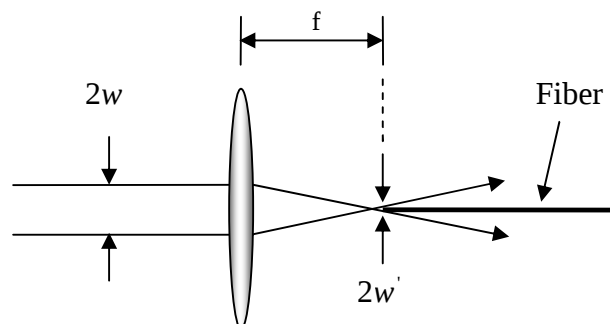

Figure 2: Laser/Fiber Lens Coupling.
Based on equation (1), when the laser spot size w is reduced, the coupling efficiency η increases. One way to reduce w is by focusing the laser beam using a lens, before the light is coupled into the fiber input end, as shown in Figure 2.
lens coupling system. The Gaussian spot size w' at the focal point (see Figure 2) is given by the well-known relationship: